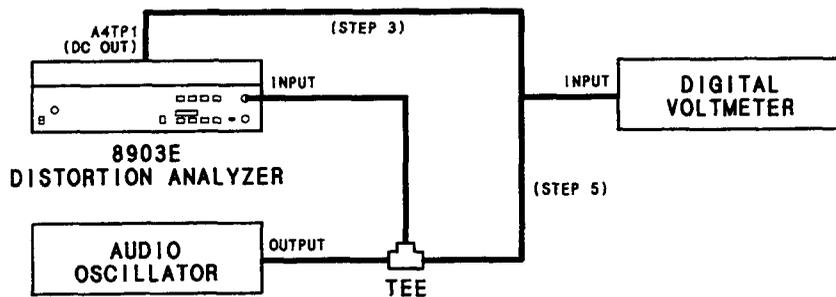

Figure 5-6. Voltmeter Adjustment Test Setup
3. Set the audio oscillator to 3V at 1 kHz. Connect the equipment as shown in Figure 5-6. Connect the voltmeter to A4TP1 (DC OUT).
5. Connect the voltmeter to the INPUT of the Distortion Analyzer as shown in Figure 5-6. Set the voltmeter to read ac volts. On the Distortion Analyzer, press the LCL key, then set the MEASUREMENT mode to AC LEVEL.